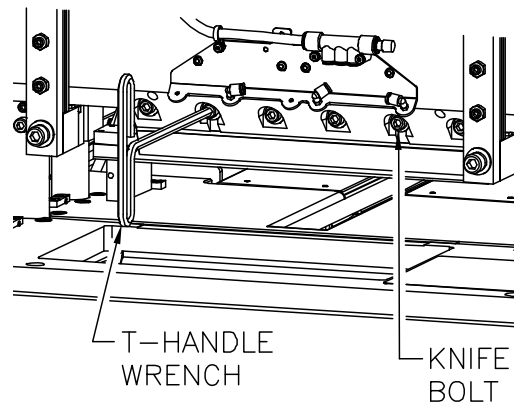

Figure 4-12. Knife Bolt Locations
1. Switch off (O) main power at the front of the machine and lock out the main power disconnect switch as described in Section 1.6 Power Lockout Procedure on page 1-4.
3. Using the T-handle hex wrench, remove the **two** knife bolts that are in **open slots** in the knife bar (Figure 4-12). They are the second and fifth bolts from either end of the knife. Set the bolts aside and save for knife installation.